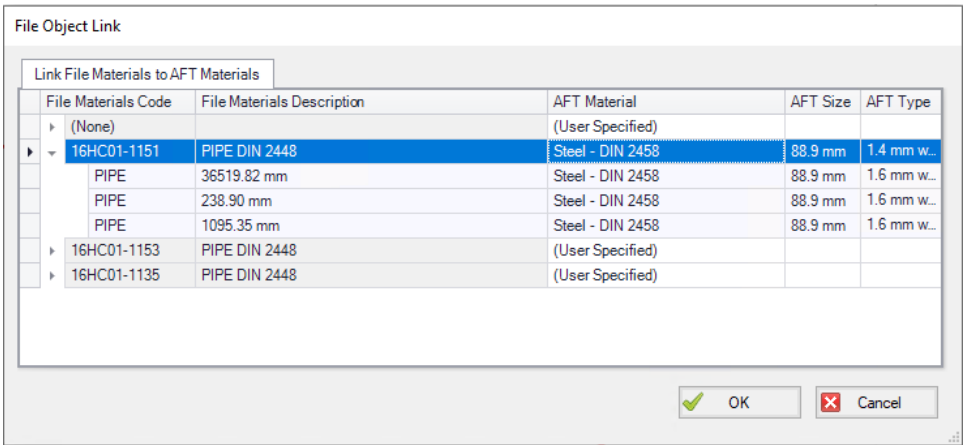

Figure 2: File Object Link window for Piping Component File Import
- **Link Materials** - Opens the File Object Link window, where the Materials Codes from the pcf file can be associated with a pipe material, size, and type in the AFT Pipe Material library. The selection from the AFT Pipe Material library will overwrite any diameter information from the pcf file. Selections made for a pcf material will be applied to all pipes that reference that pcf material. Pipes associated with each material can be seen by clicking the arrow on the left expand the group (Figure 2).